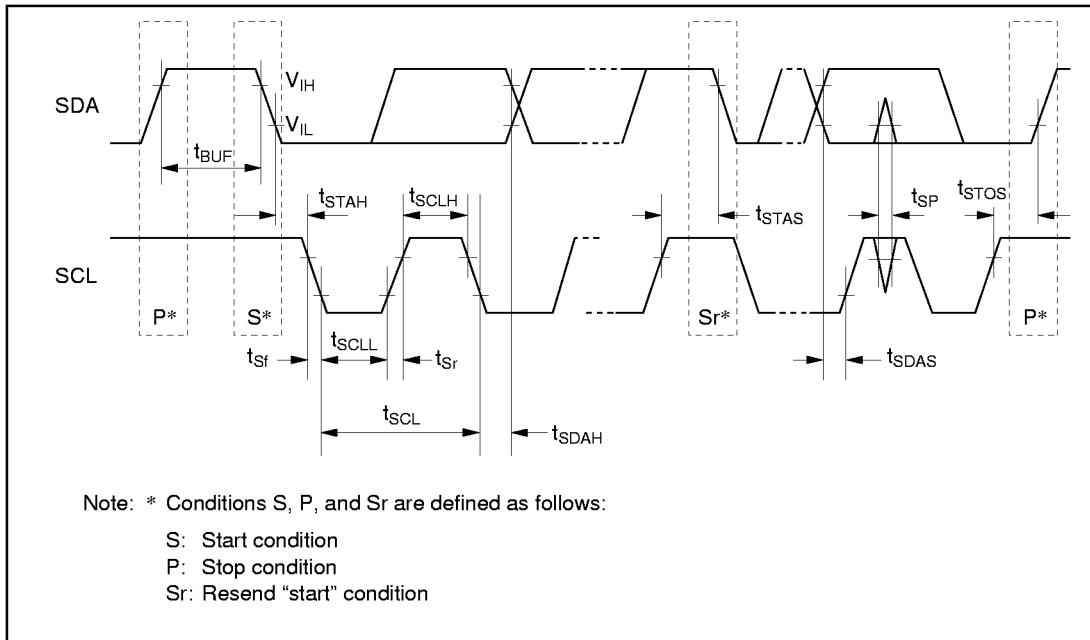

Figure 22-21 I2C Bus Interface I/O Timing
22.3.9 I 2 C Bus Timing	Figure 22-21